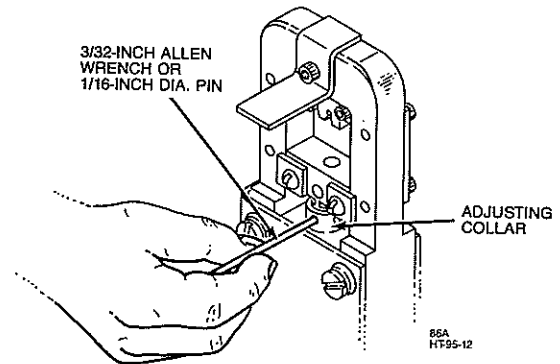

Figure 14
3. Insert the turned-down end of the 3/32-inch Allen wrench or a pin, approximately 1/16-inch in diameter, into one of the holes in the adjusting collar (see figure 14). Then rotate the collar about 5 degrees counterclockwise to increase crimp height or clockwise to decrease crimp height.